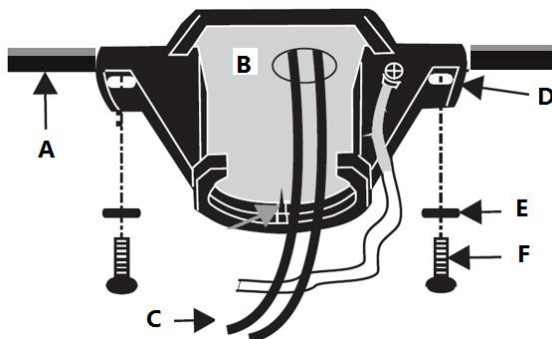

Fig. 10
Pass the power supply wires (C) from the ceiling outlet box (B) through the center of the ceiling mounting bracket (D). Install the ceiling mounting bracket (D) on the outlet box (B) with the mounting screws (F) provided with the outlet box and washers (E) provided with fan. **Fig. 10**